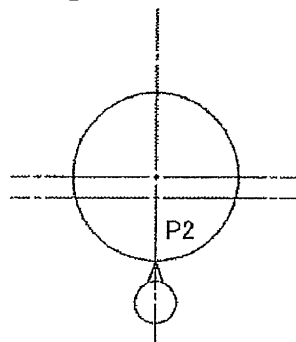
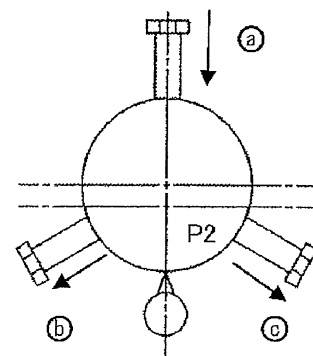

Fig. 7
Fig. 8
- d) Rotate the work spindle for positioning, so that the contact of the dial gauge comes to the position P2 in Fig.7. (As shown in Fig.8)
and tighten the bolt (a) to move a thing in the direction of the contact by A/2. (As shown in Fig.8)